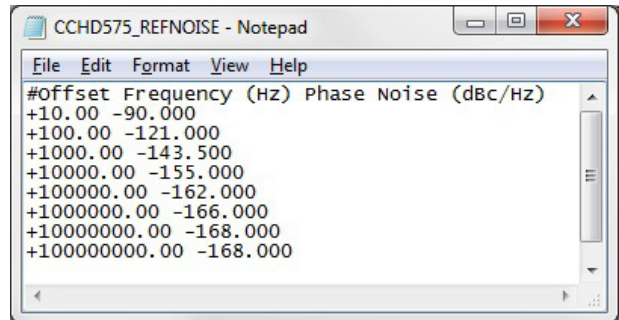

Figure 42. LTC6951 Wizard Reference Noise File Format
When designing loop filters and simulating jitter performance with the LTC6951 Wizard, it is recommended to import the noise profile of the desired reference network for best results. Figures 42 and 43 provide the information required to import a reference noise file into the LTC6951 Wizard. The remainder of this appendix provides information and examples to aid in estimating the phase noise of a reference distribution network. The examples in this appendix are based off the reference distribution networks provided in the LTC6951 Sync Manual’s design examples.
Step 4: Create an LTC6951Wizard reference input file (see Figure 42) from data in the Offset Frequency and PN_{TOT} columns in Step 3.